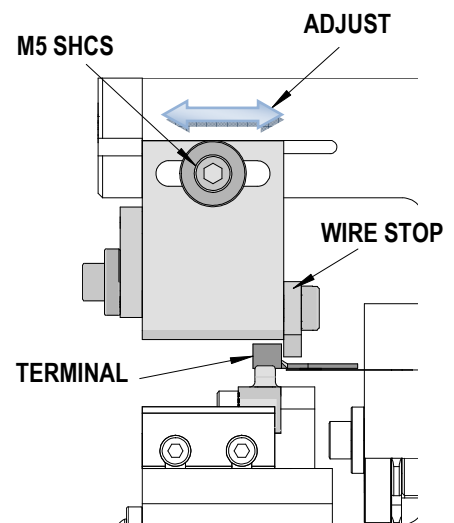

Figure 2-13
3. To adjust the wire stop, loosen the M5 SHCS on the side of the stripper. Move the wire stop in or out until it is near the end of the terminal barrel. See Figure 2-13. Tighten the M5 SHCS when adjustment is complete.